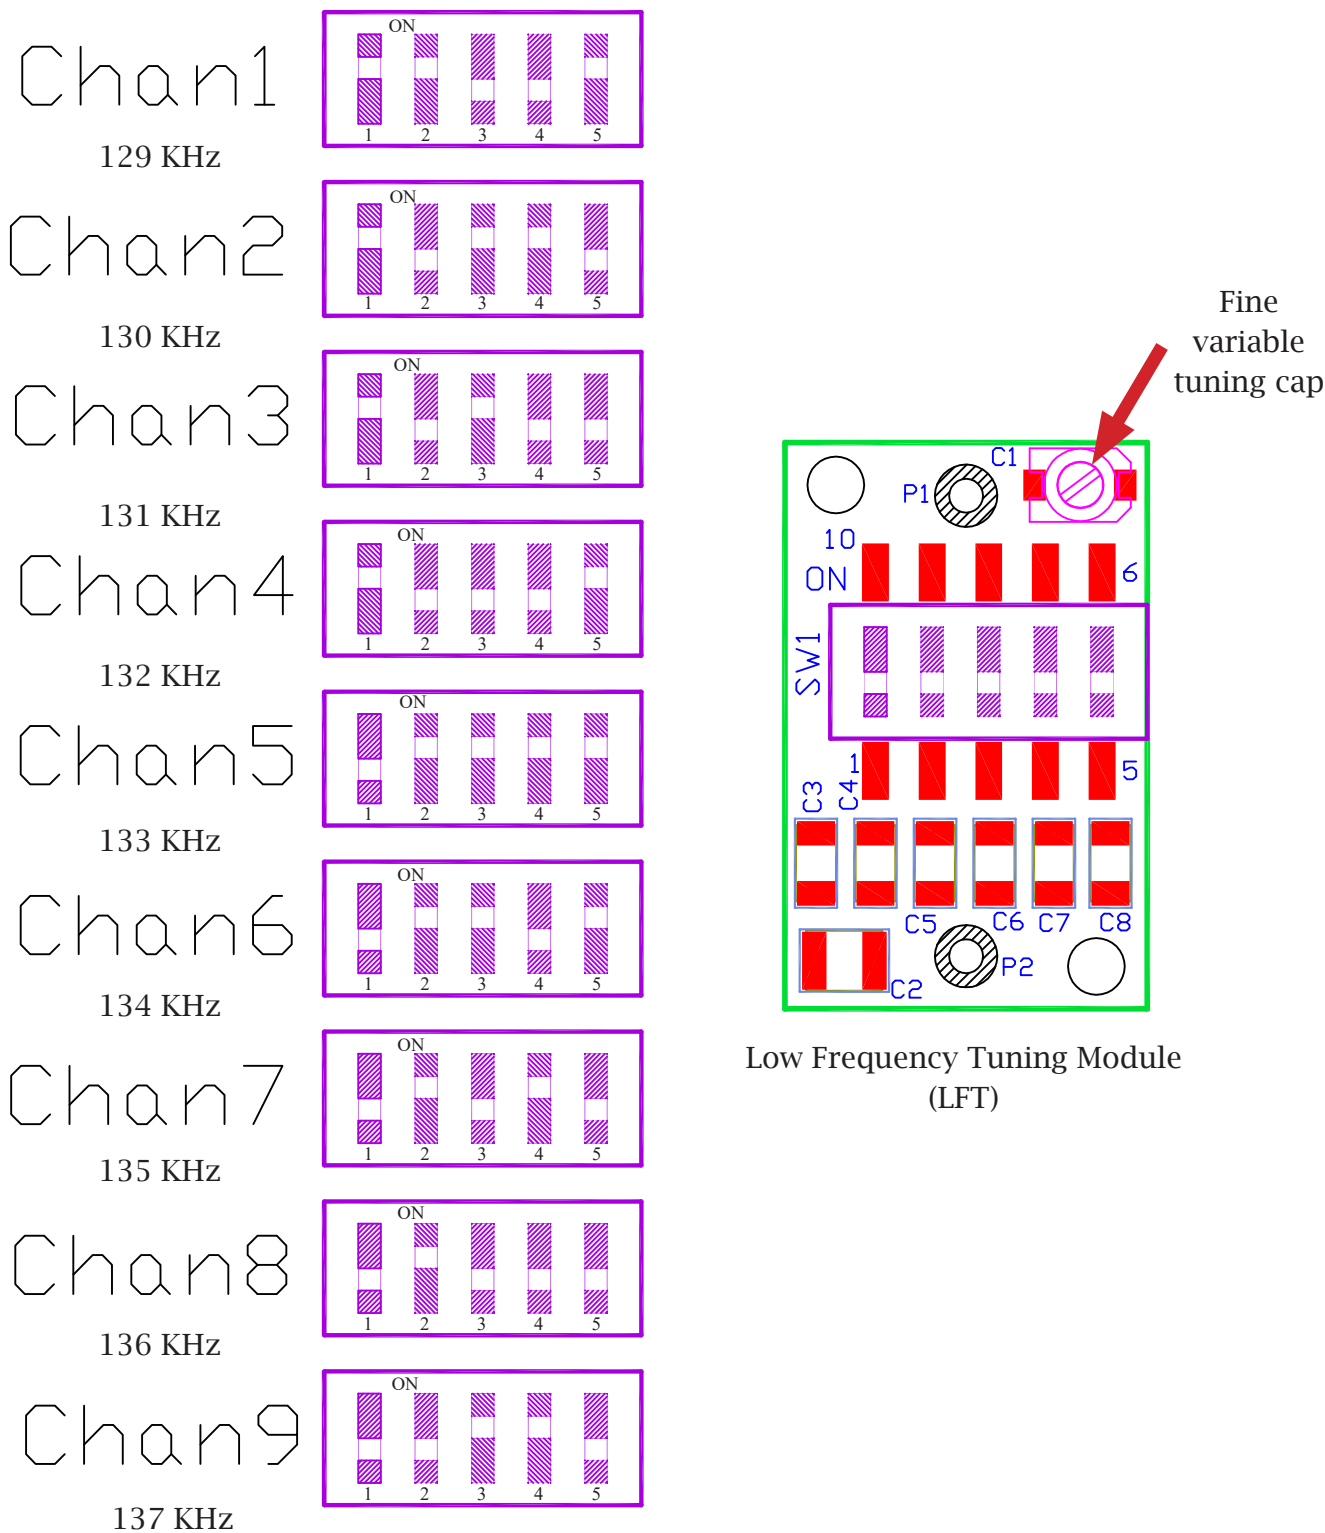

Figure 8.2
- 6) Each antenna has a corresponding LFT (Low Frequency Tuning Module). Set the LFT's five dip switches to the desired channel/frequency configuration (figure 8.2).